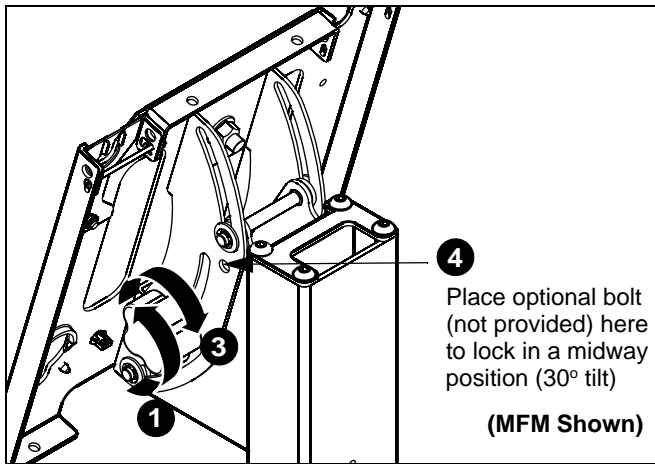

Figure 9
1. Turn knob counterclockwise on back of head assembly to loosen the tilt. (See Figure 9)
3. Turn knob clockwise to tighten display on head assembly. (See Figure 9)
4. If leaving the display in a midway position (30° tilt), it is recommended that a bolt (not provided) be placed through the head assembly (see Figure 9) to lock the display into the midway position.